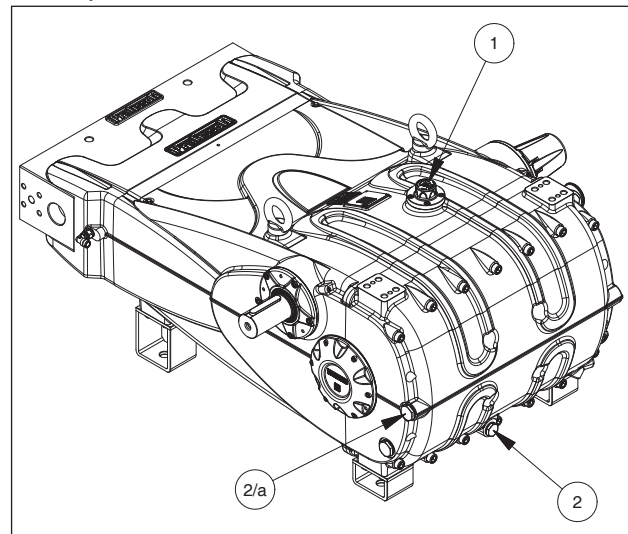

Fig. 4
Check the oil level using the dipstick ①, Fig. 4.
If necessary, top up via the oil cap ①, Fig. 4.
The correct checking of the oil level is made with the pump not running, at room temperature. The oil change must be made with the pump at working temperature, removing the plug pos. ②, Fig. 4. (Use the plug pos. 2/a for the vertical version.)